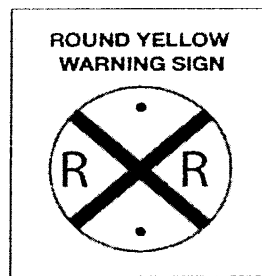

Figure 2.15
**Advance Warning Signs.** The round, black-on-yellow warning sign is placed ahead of a public railroad-highway crossing. The advance warning sign tells you to slow down, look and listen for the train, and be prepared to stop at the tracks if a train is coming. *See Figure 2.15.*